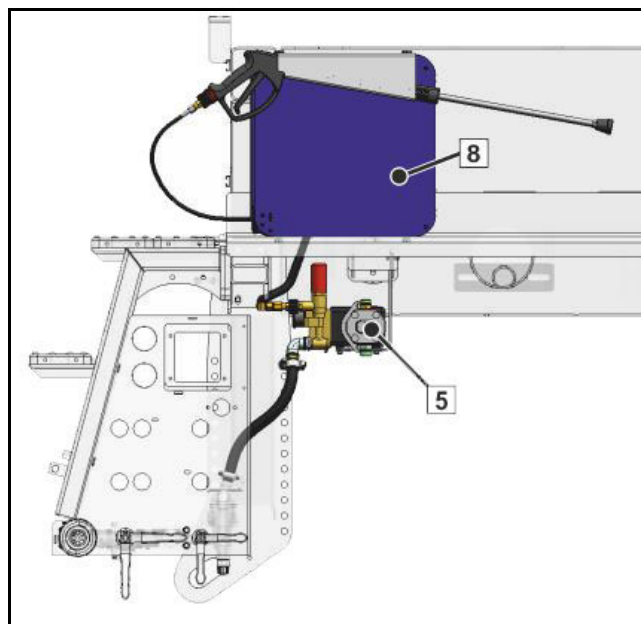

Fig. 428 Hose reel (8) fig. similar
The system is equipped with rolling equipment (8) (**Fig. 428**) for the high-pressure hose.